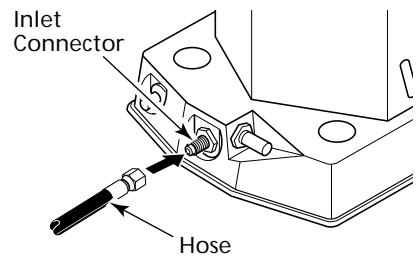

Figure 4 - Hose and Inlet Connector
3. Connect hose to the inlet connector (See Figure 4). Tighten firmly using wrench.